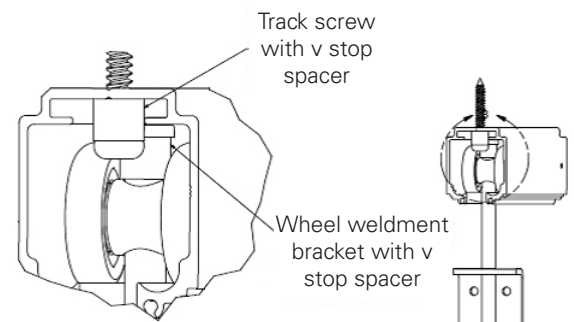

Figure 7: Pocket retained post top stop
4. Mark the corresponding location for the top stop. Push the grille all the way into the pocket and screw top stop into place as shown in Figure 7. It should be directly above the closed end of the V guide bracket.